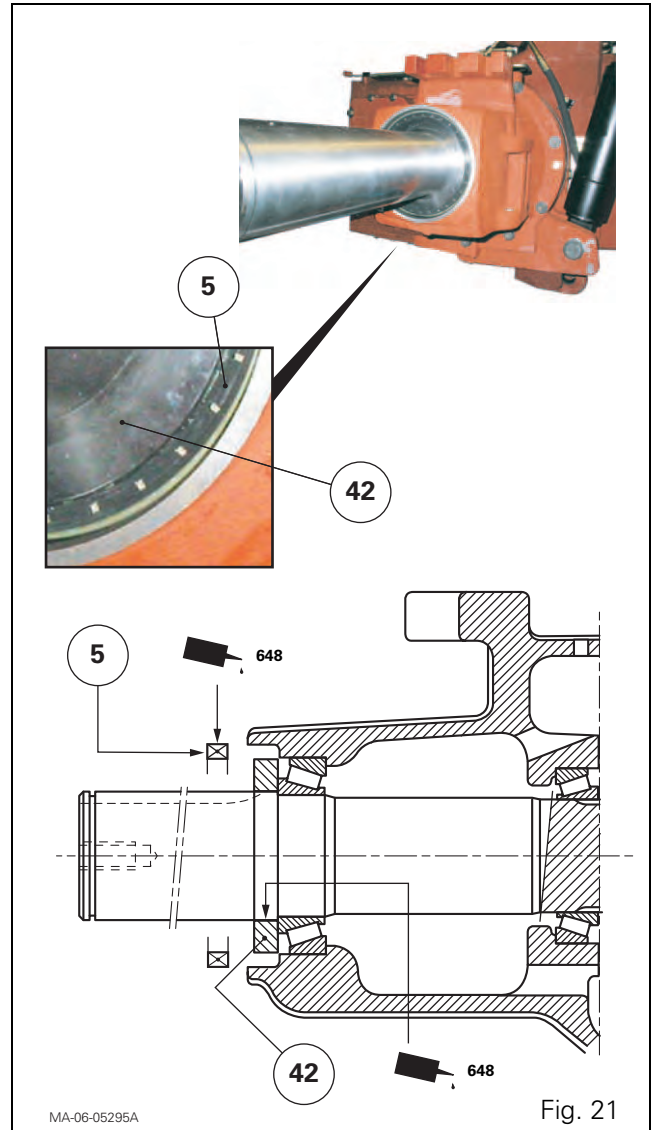

Fig. 21
69. Extract the cassette seal (5) from the trumpet housing (Fig. 21) using a makeshift tool.
IMPORTANT: Take care not to scratch the trumpet housing or ring (42) rim (Fig. 21).
70. Clean the location of the cassette seal (5) on the trumpet housing and on the ring (42) (Fig. 21).
IMPORTANT: The internal surface of the ring should be smeared with Loctite 648 or equivalent (Fig. 21).
71. Lightly smear the external surface of the cassette seal with Loctite 648 or equivalent (Fig. 21).
72. Fit the cassette seal in the trumpet housing using tool ref. 3378151M1 (see § K). Wipe any excess Loctite from around the seal.